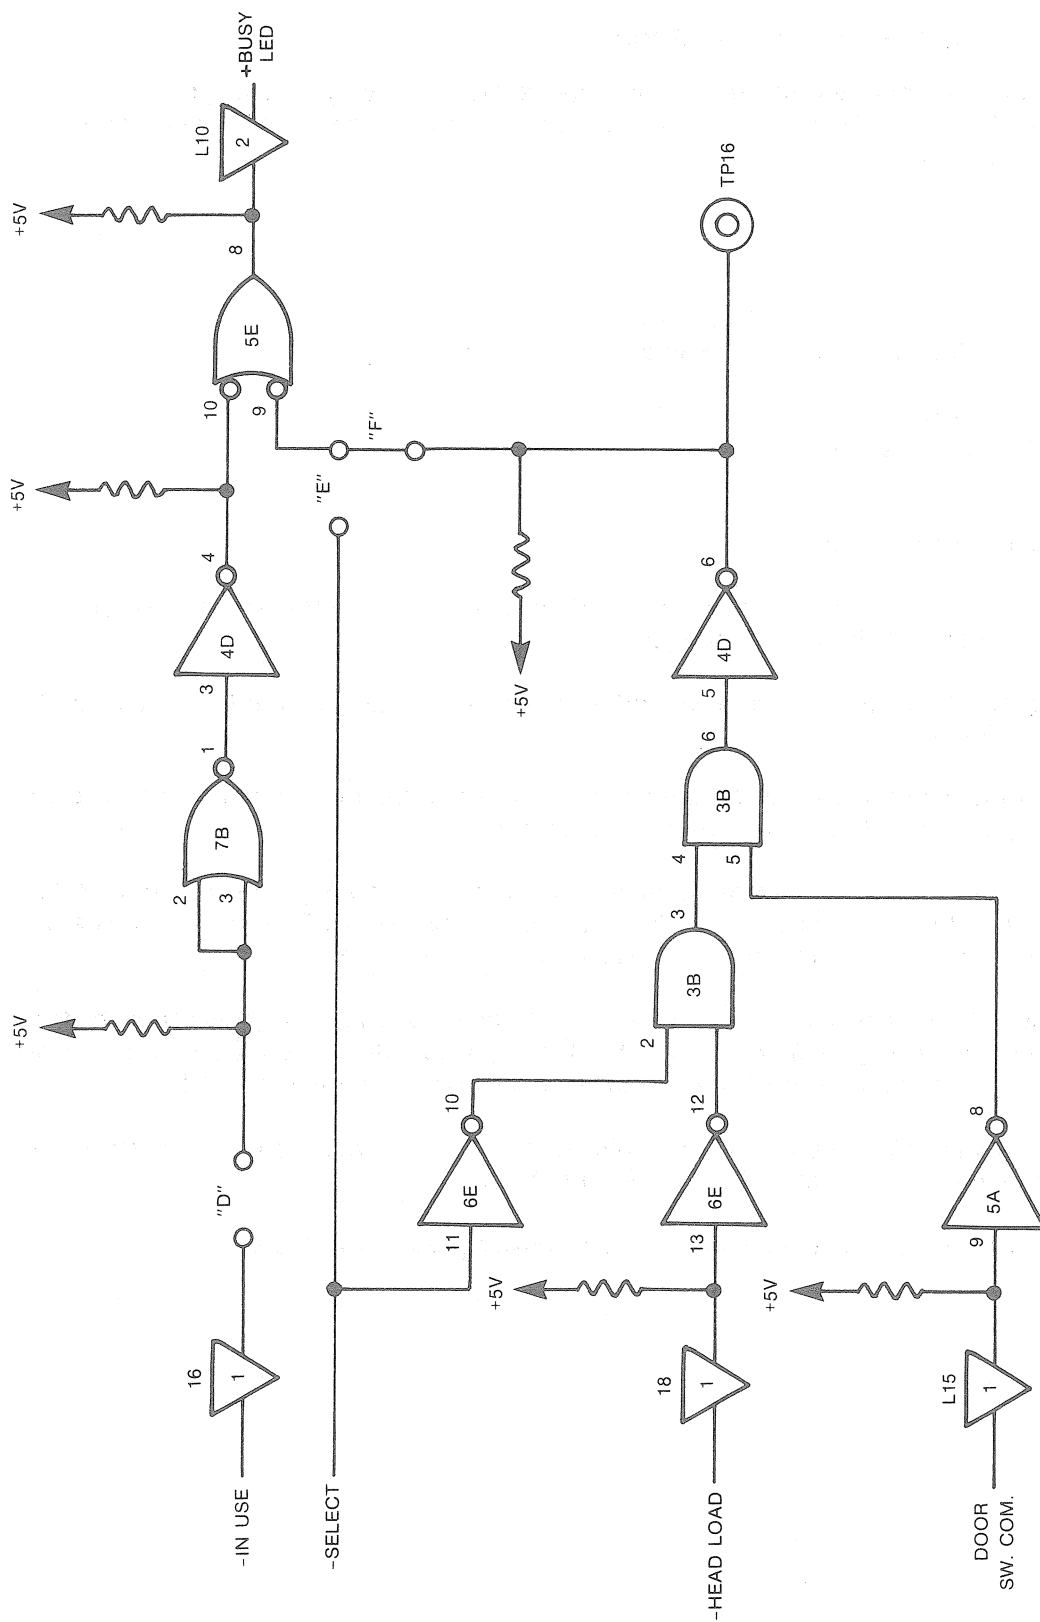

FIGURE 3-17. BUSY LED LAMP OPTION
With the standard PCB installed, the BUSY lamp lights when the drive's door is closed, the drive is selected, and the head is loaded (see Figure 3-17). There are two optional choices that are user-selectable.
To enable this option, install a jumper at "D" (see Figure 3-17).
1. Cut trace "F" (see Figure 3-17)